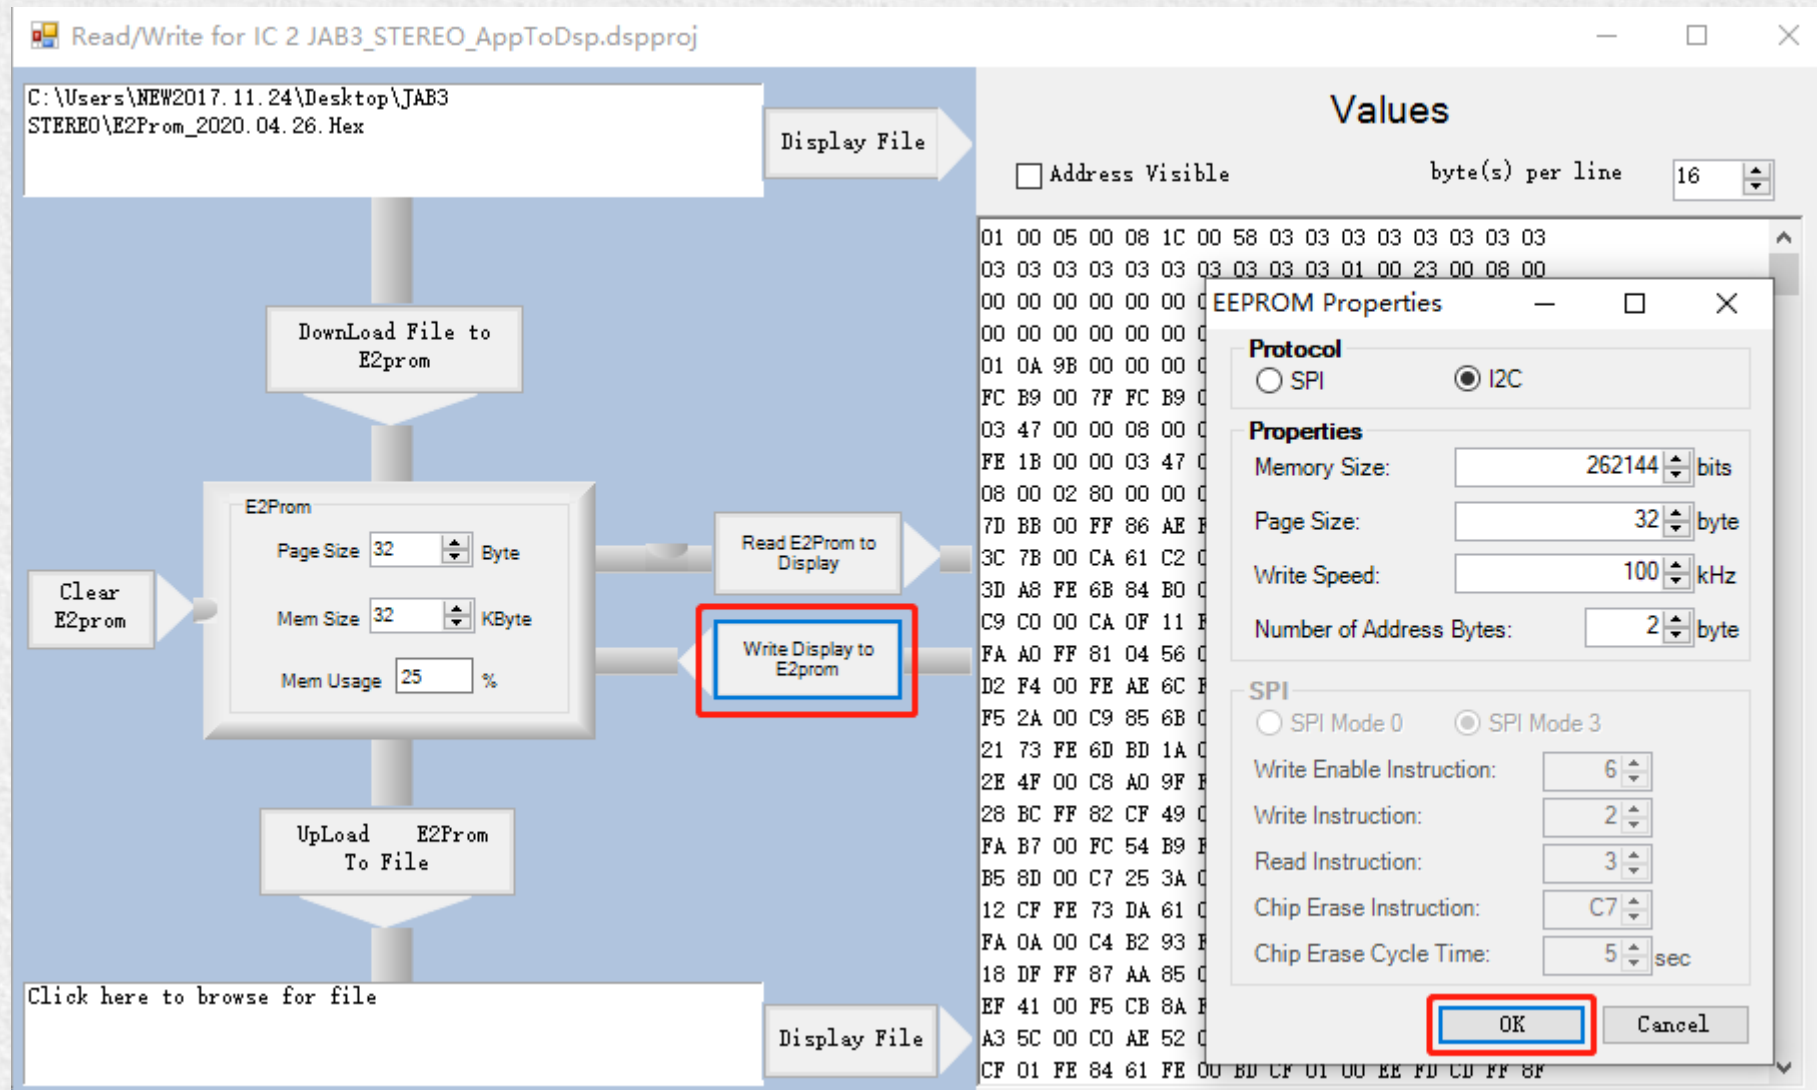

Figure 10
3. Click 'Write Display to E2prom' then click 'OK' of the prompt box (Figure 10).